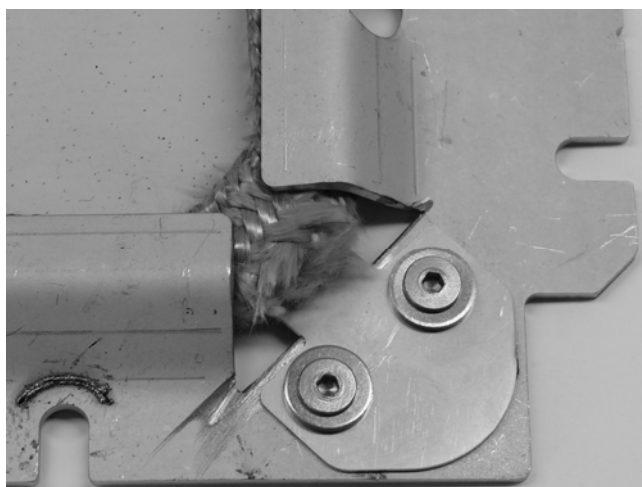

Figure 15: Glass-frame clips
4. Using a (2mm) Allen wrench, remove the 8 screws from the 4 glass clips on the corners of the frame. This will free the glass from the frame. (See Figure 15)